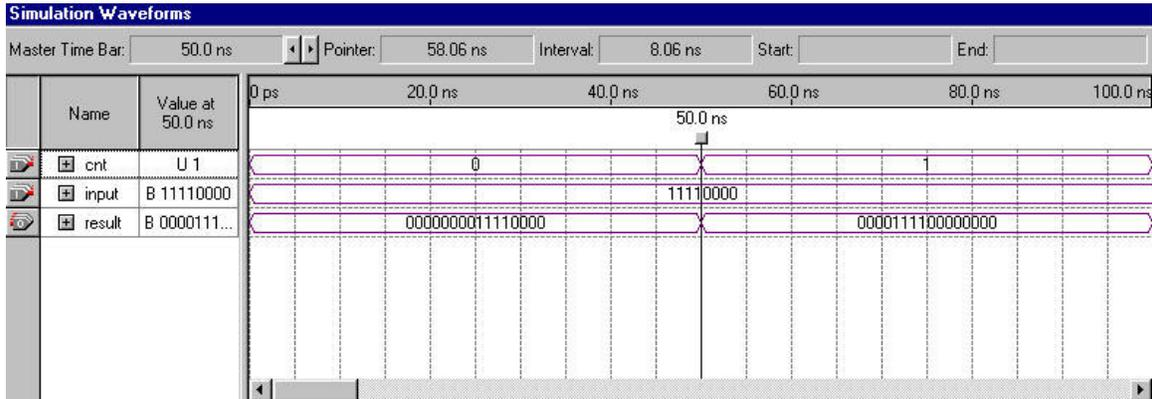

Figure 4-6.
1. Check to see if you get the same results shown in Figure 4-6.